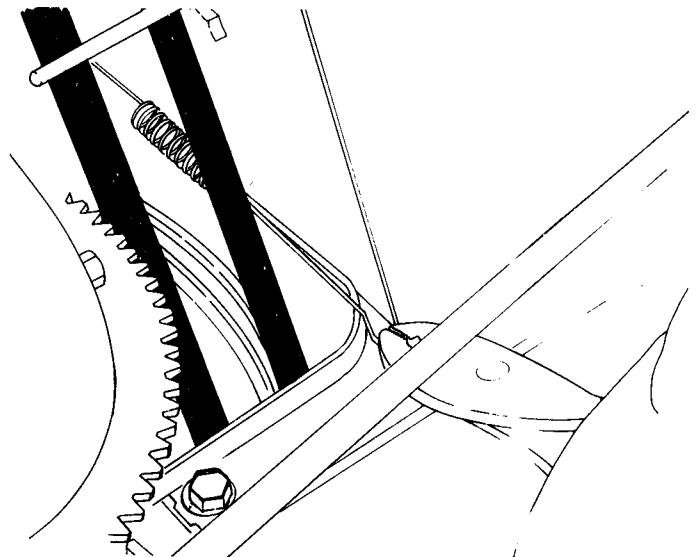

FIGURE 3.3 — UNHOOKING IDLER SPRING
**STEP 3.** To disconnect the belts, loosen the blower belt idler and unhook the idler spring from the case (figure 3.3). Slip both belts out